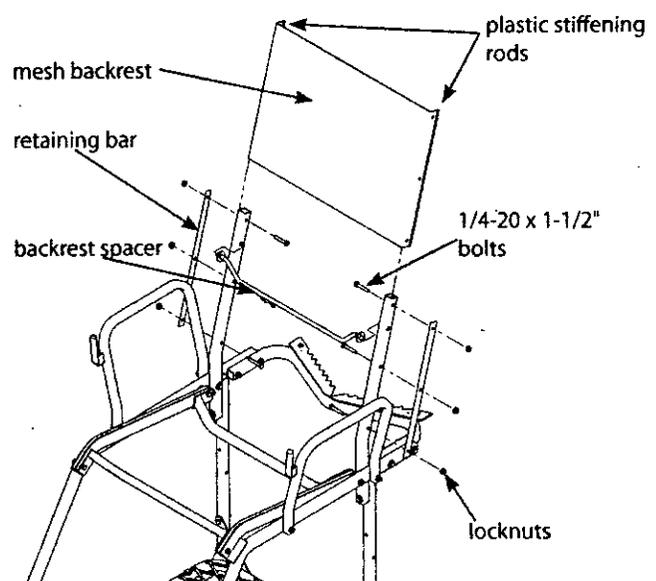

Figure 10
- Attach the mesh backrest assembly (360021) and the (2) retaining bars (410081) to the backrest mounts using (6) provided 1/4-20 x 1-1/2" bolts and locknuts. **SEE FIGURE 10.** The mesh backrest must wrap around the front side of backrest mounts and the plastic stiffening rod located in the sewn sleeve on each side of the backrest **MUST** be positioned behind the backrest retainer bars to act as a stop and prevent the backrest from pulling out during use. All bolts **MUST** go through the backrest retainer bars, the holes provided in the backrest and the backrest mounts. **SEE FIGURE 10**
14. Insert the backrest spacer (410118) into holes provided on backrest mounts. This must be done prior to any tightening of bolts. **SEE FIGURE 10. You must now tighten all nut & bolt assemblies. Be sure not to over tighten or crush tubing when tightening!**